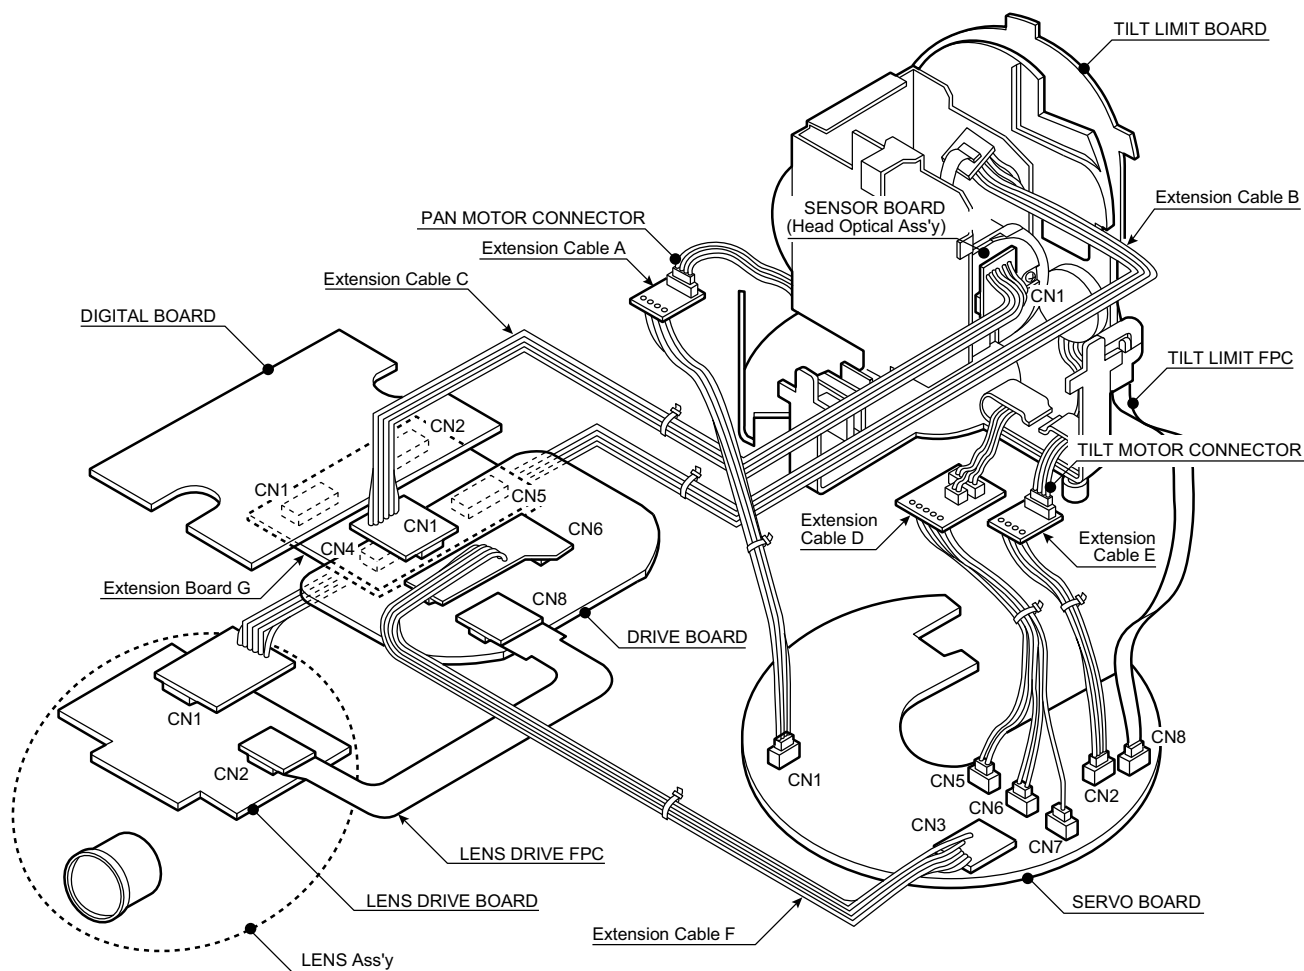

Fig. 2-10
- When adjusting the Camera use three Extension Cables and one Extension board as shown in Fig. 2-10.